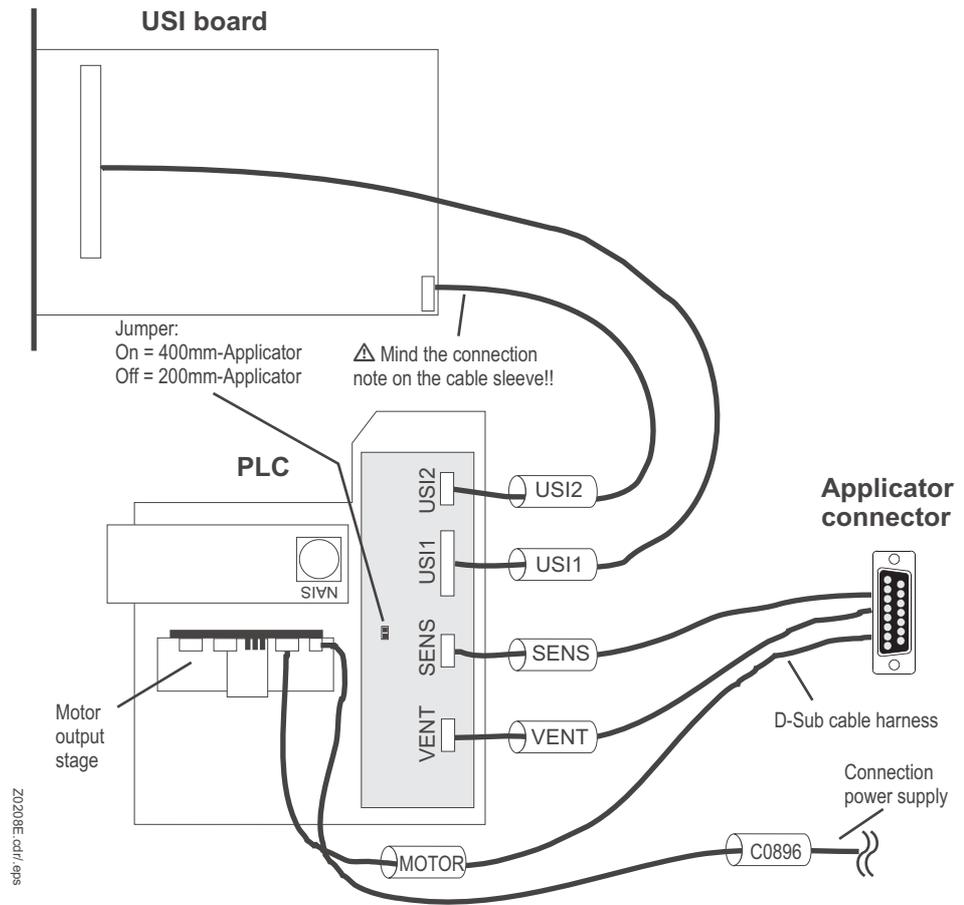

Fig. 2: Correct connection of the PLC for LTSI to an 64-xx.
- ▶▶▶ Leave the angled plate (1) fixed to the power supply!
2. Disconnect the ground cable (2) and the plug (3), to be able to move the power supply farther out of the printer housing.
3. Pull the power supply slightly out of the printer housing as illustrated (fig. 2 and 3).
4. Remove the cable clamp (1) from the printer bottom (by means of a screwdriver).
1. Connect the VENT (4) and SENS (5) cables, which are part of the cable harness, to the sockets on the PLC board that bear the same names (fig. 2).
1. Connect the VENT (5) and SENS (6) cables, which are part of the cable harness, to the sockets on the PLC board that bear the same names (fig. 2).
2. Connect the MOTOR (7) cable, which is part of the cable harness, to the output stage board (fig. 2).